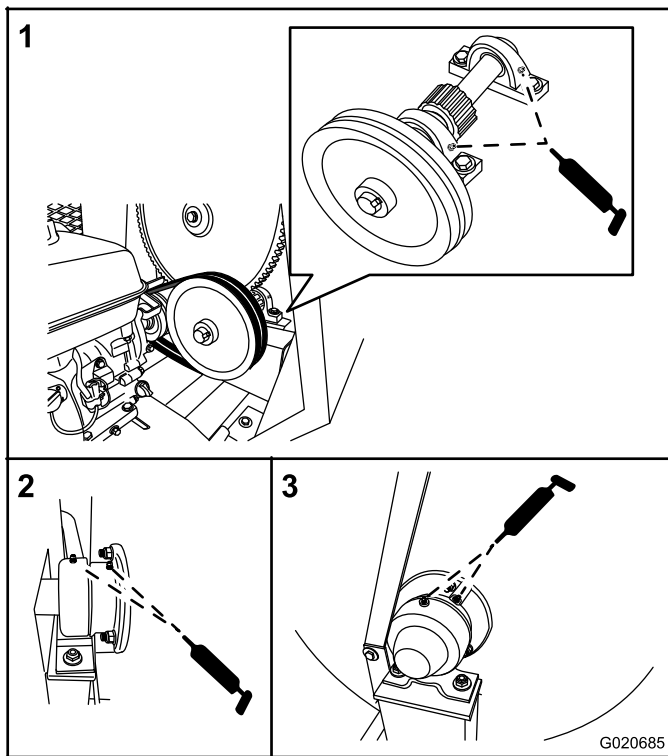

Figure 38
1. Clean around each grease fitting with a rag and lift the plastic cap off the grease fitting (Figure 38).
- For the pillow-block bearings, pump 1 shot of grease into each fitting (Figure 38).
- For the trunnions, pump several shots of grease into each fitting until it starts to ooze out of the bearing housing (Figure 38).